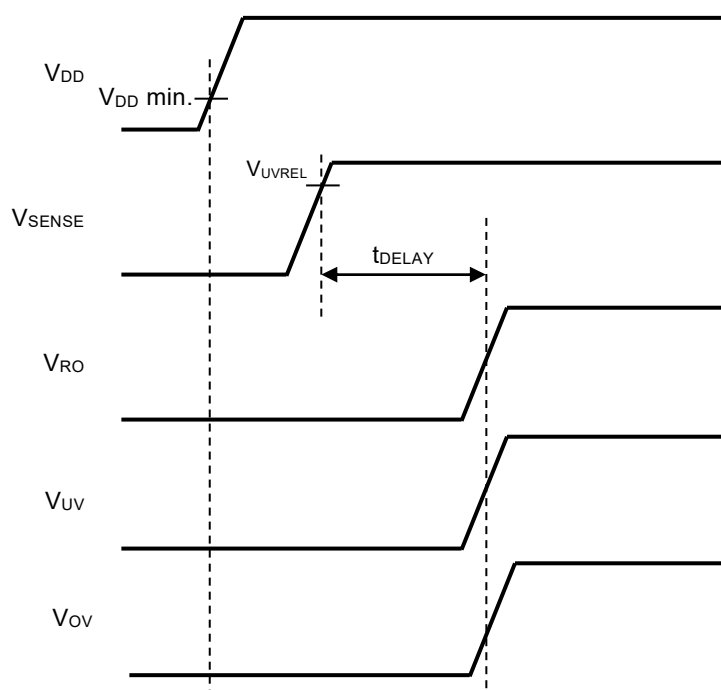

Figure 41
- (1) Order of VDD pin and SENSE pin (Refer to **Figure 41**)
- (2) VDD pin and SENSE pin at the same time